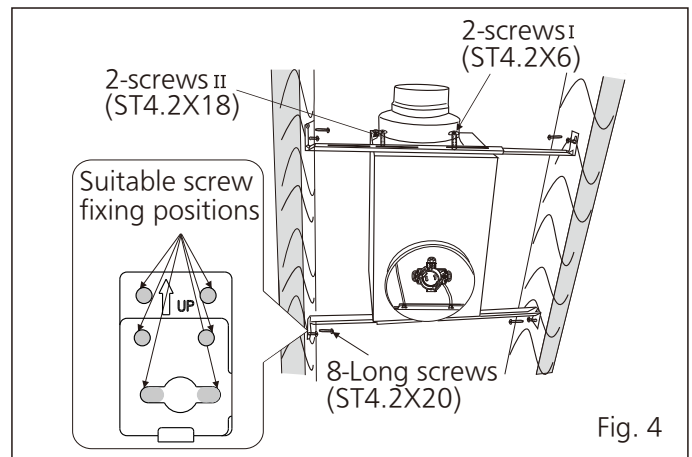

Fig. 4
- Hang the fan body down from the four long screws, and adjust the suspension brackets if necessary. Then, tighten the four long screws up. And that, fix the other four long screws (ST4.2X20) to other holes. Make sure the fan body is level and square with the joists. (Fig. 4)
- Tighten the two screws I (ST4.2X6) up (Except that the spacing is 12 inches between joists.). Then secure suspension bracket I and II to the fan body with screws II (ST4.2X18). (Fig. 4)